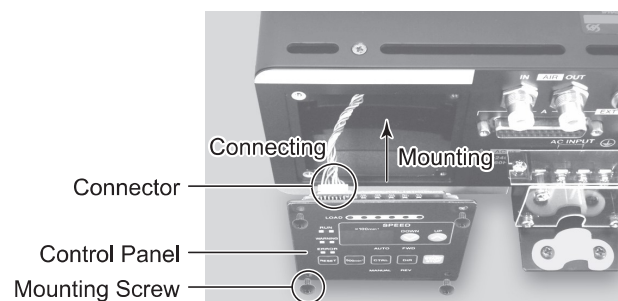

Fig. 22
- (3) Connect the connector inside the CONTROLLER to the connector of the rear of the Control Panel. (Fig. 22).
- (4) Re-attach the Control Panel using the 4 mounting screws (Fig. 22).